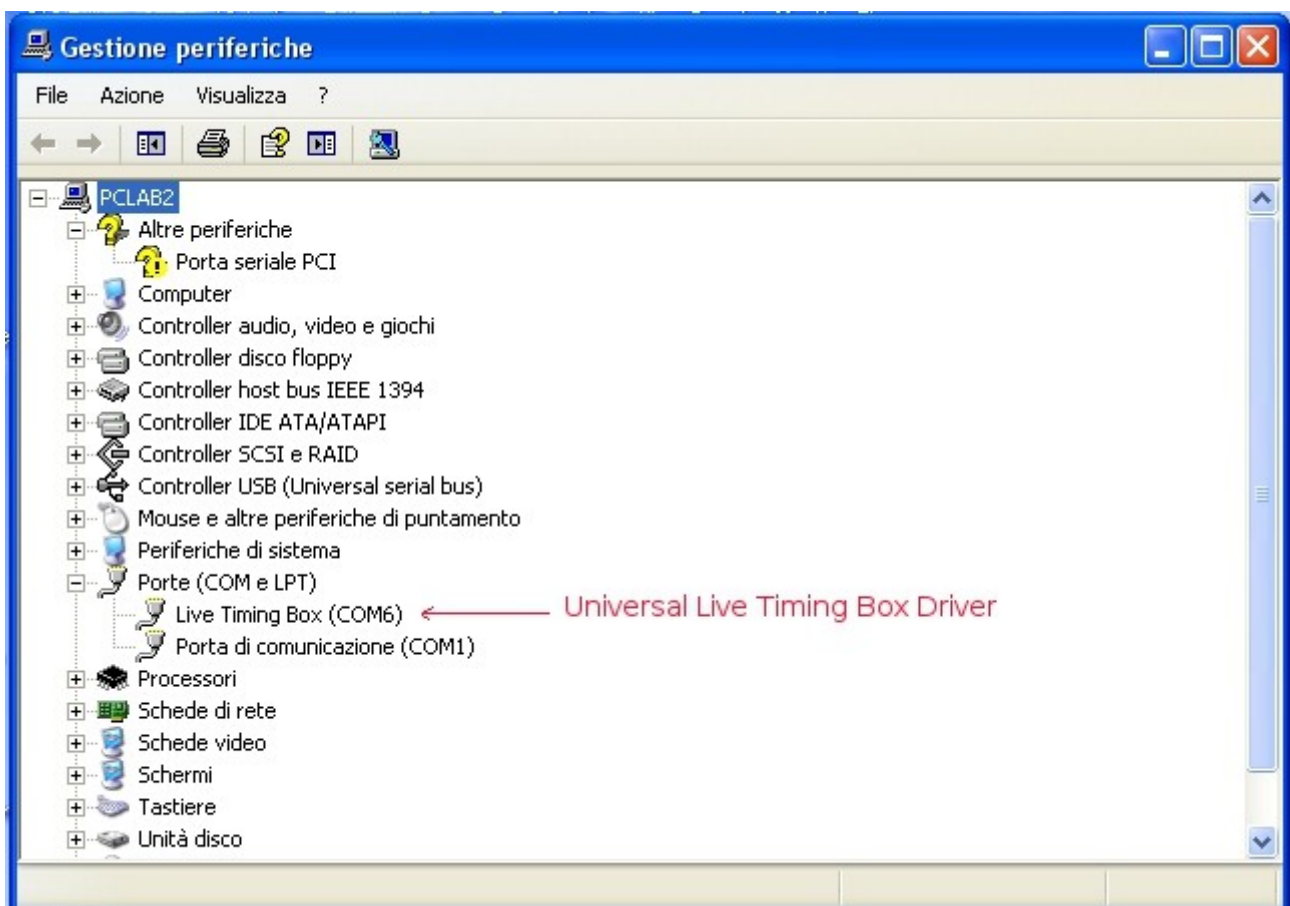

Figure 1: *Live Timing Box PC Interface* driver installation's result check
7. to make sure that the installation has been successful, go to the "Device manager" of the PC and verify that, with the *Universal Live Timing Box* connected to the PC, the devices shown in figure 1 appear.